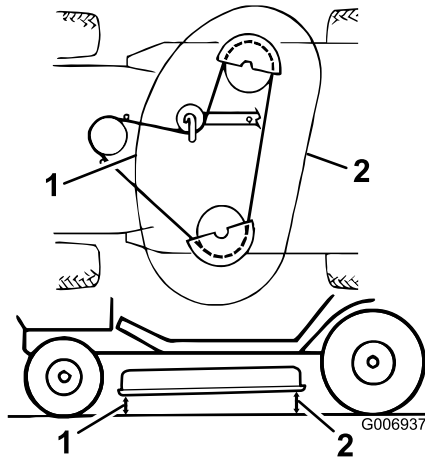

Figure 49
9. Check the front-to-rear slope by measuring between the bottom of the mower (front center and rear center) and the flat surface (Figure 49). If the front is not within a range of 1/8 to 3/8 inch (3 to 10 mm) lower than the rear, adjust it.